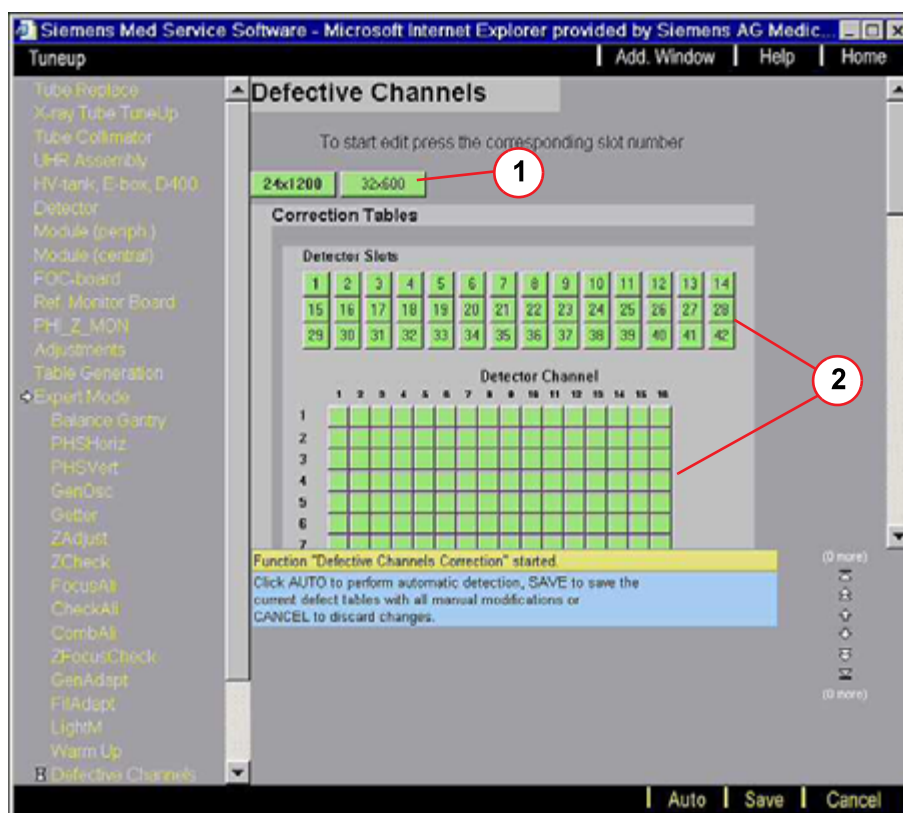

Fig. 28: Defective-Channels-VB20
Recommendation: Check for existing defects prior to run the defective channel measurement (2/ Fig. 28 / p. 75). Defective channels are marked in red. Perform the defective channel correction and check if previously detected channels are used again. In this case the above tuneup steps shall be performed. If all previously detected channels remain defective or even new ones are detected, no additional tune up steps have to be performed.
- Select the **Correction Table** (e.g. 24x1200) which shall be patched manually (1/Fig. 28 / p. 75).
- Mark the affected **Detector Slot** by selecting the number with a mouse click (2/Fig. 28 / p. 75). The color changes to red indicating that this Detector slots contains defective channels.
- Mark the defective channels and the affected slices by selecting the channel number in all affected slices with a mouse click (2/Fig. 28 / p. 75). Detector slices are displayed from top to bottom, detector channels are displayed from left to right. Defective detector channels are highlighted in red.